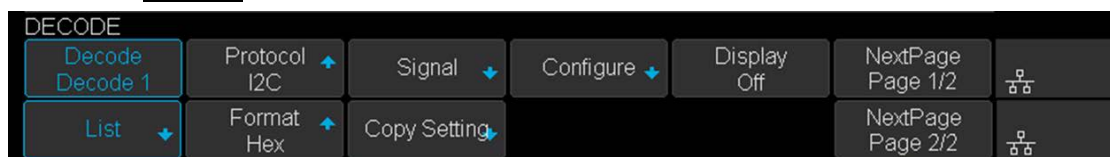

Figure 35 I2C DECODE Menu
1. Press **Decode** key to enter the **DECODE** function menu as Figure 35 shows.